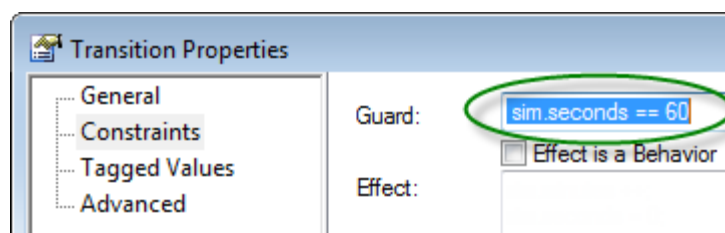

Figure 4: A conditional statement in the Transition Guard
1) With State Machines you can set variables in the first Transition after the initial element. As an example, Figure 4 shows the Properties dialog for the Transition connector containing an initializing script for the Digital Clock model.
A key point when initializing your script is to state which Win32 UI model you are using. In the example this is set in the entry connector (see Figure 4). The script for this is: